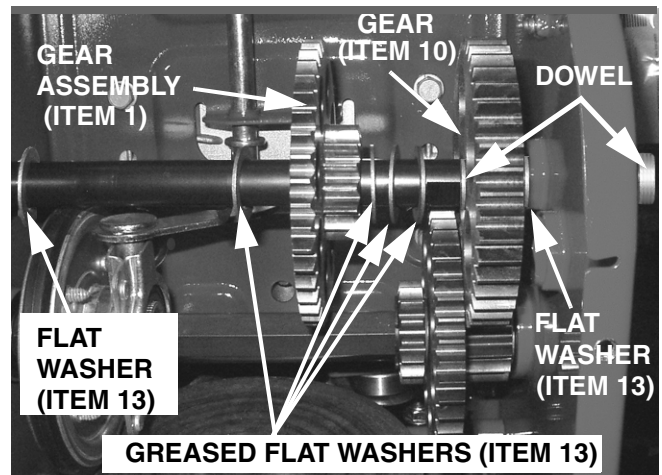

FIGURE 15
31. Pack AeroShell 22 Grease, Item 18, into the needles in the bearing and apply a coating onto the bearing seals of Gear Assembly, Item 1. Assemble two (2) Flat Washers, Item 13, onto the axle from the right hand side, followed by the Gear Assembly, Item 1. Apply AeroShell 22 Grease, Item 18, to both sides of three (3) Flat Washers, Item 13. Assemble the three greased washers onto the axle. See Figure 15.
NOTE: Ensure that the Flat Washer nearest the left side hex flange bearing is positioned and remains to the left of the Friction Wheel/Bearing Assembly as shown in Figure 15 through the remaining axle installation.
32. Using a piece of 1/2" or 3/4" wood dowel, or other suitable tool, positioned through the frame's right side axle hole, place a Flat Washer, Item 13, then Gear, Item 10, onto the dowel as shown in Figure 15.